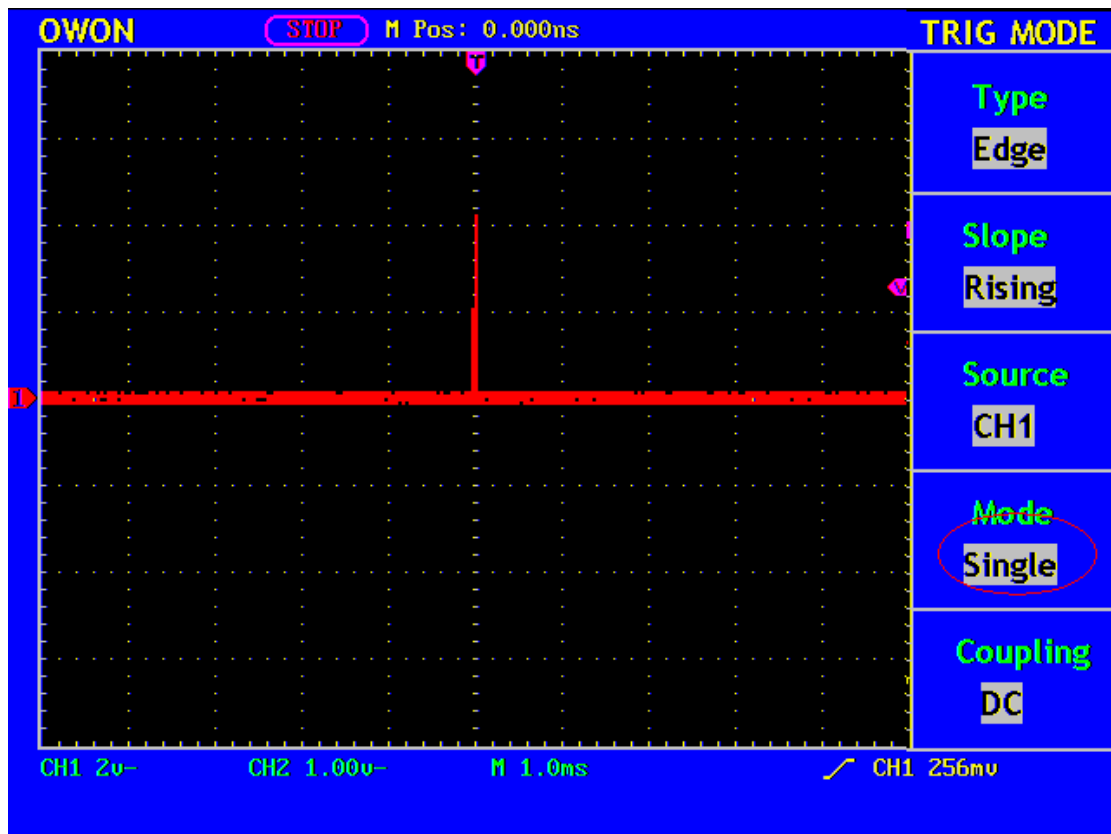

Fig. 55 Capture the Single Signal
10. If the **Trigger State Indicator** at the top of the screen does not indicate **Ready**, push down the **RUN/STOP** button and start **Acquire**, waiting the emergence of the signal in conformity with the trigger conditions. If a signal reaches to the set trigger level, one sampling will be made and then displayed in the screen. With this function, any random occurrence can be captured easily. Taking the burst burr of larger amplitude for example, set the trigger level to the value just greater than the normal signal level, and then presses the **RUN/STOP** button and waits. When there is a burr occurring, the instrument will trigger automatically and record the wave form generated during the period around the trigger time. With the **HORIZONTAL POSITION** knob in the horizontal control area in the panel rotated, you can change the horizontal position of the trigger position to obtain the negative delay, making an easy observation of the waveform before the burr occurs (see Fig. 55).